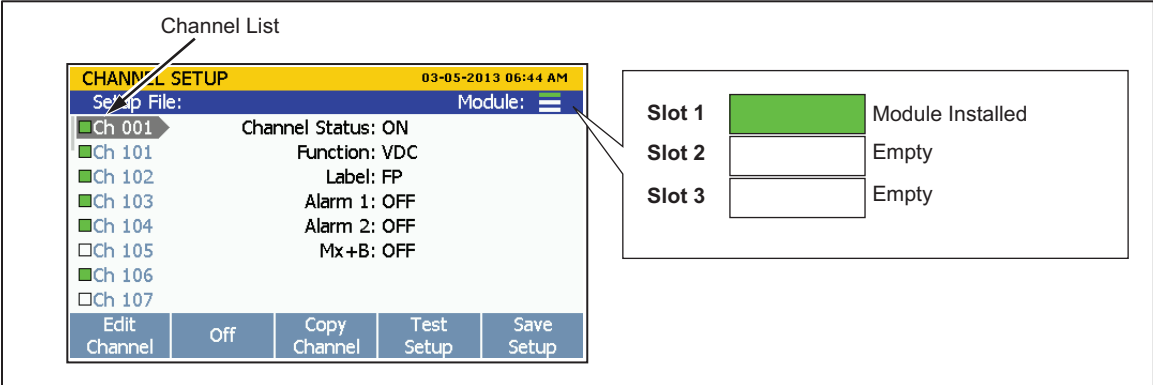

Figure 2-5. Module Indicator Example
- 4. Verify that the module indicator appears green on the main screen (see Figure 2-5).